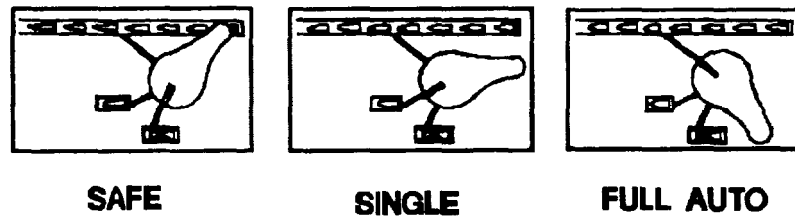
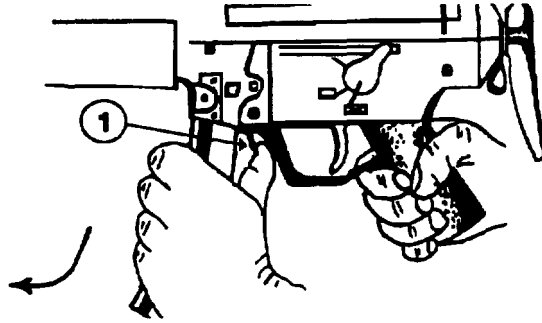
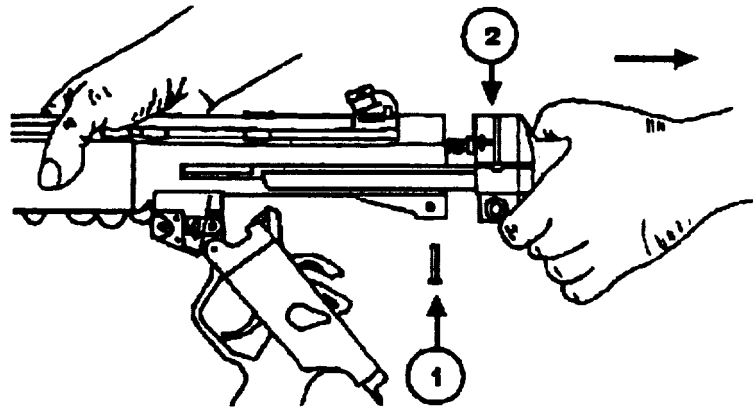

Figure 1-4. Selector Lever
Figure 1-5. Removing The Magazine
Figure 1-8. Removing The Buttstock
- a. On Safe. Rotate the ambidextrous selector lever, Figure 1-4, to the SAFE position.
b. Remove Magazine. Push either the magazine release lever (1), Figure 1-5, or the magazine release button (located on the right side of the weapon), to release the magazine from the magazine catch.
c. Remove buttstock locking pin (1), Figure 1-8, by pushing from right to left. Remove buttstock (2).
- g. Push the retractable buttstock assembly (2), Figure 1-8, over the rear flap of the pistol grip and into position on the receiver.
- h. Align the pin hole and install the buttstock locking pin (1).
- k. Rotate the selector lever, Figure 1-4, to SAFE.
e. With the selector lever turned to either the SINGLE or FULL AUTO (full-automatic) position, (Figure 1-4 on page 1-11), the MP5N may now be fired. The weapon will fire one round for each squeeze of the trigger when the selector lever is in the SINGLE fire mode, or fire continuously with one pull of the trigger when the selector lever is in the FULL AUTO fire mode. or until the magazine and chamber are empty.
a. MP5N. Rotate the selector lever to SAFE (Figure 1-4 on page 1-11). Push the magazine release lever forward or depress the magazine release button to remove the magazine (Figure 1-5 on page 1-12). Engage the charging handle in the recess, which will eject any cartridge still chambered. The bolt does NOT automatically remain to the rear when the weapon or magazine is empty. After the MP5N is unloaded, and with the charging handle to the rear, look into the chamber and feel with a finger to make certain the breech area and chamber are empty.